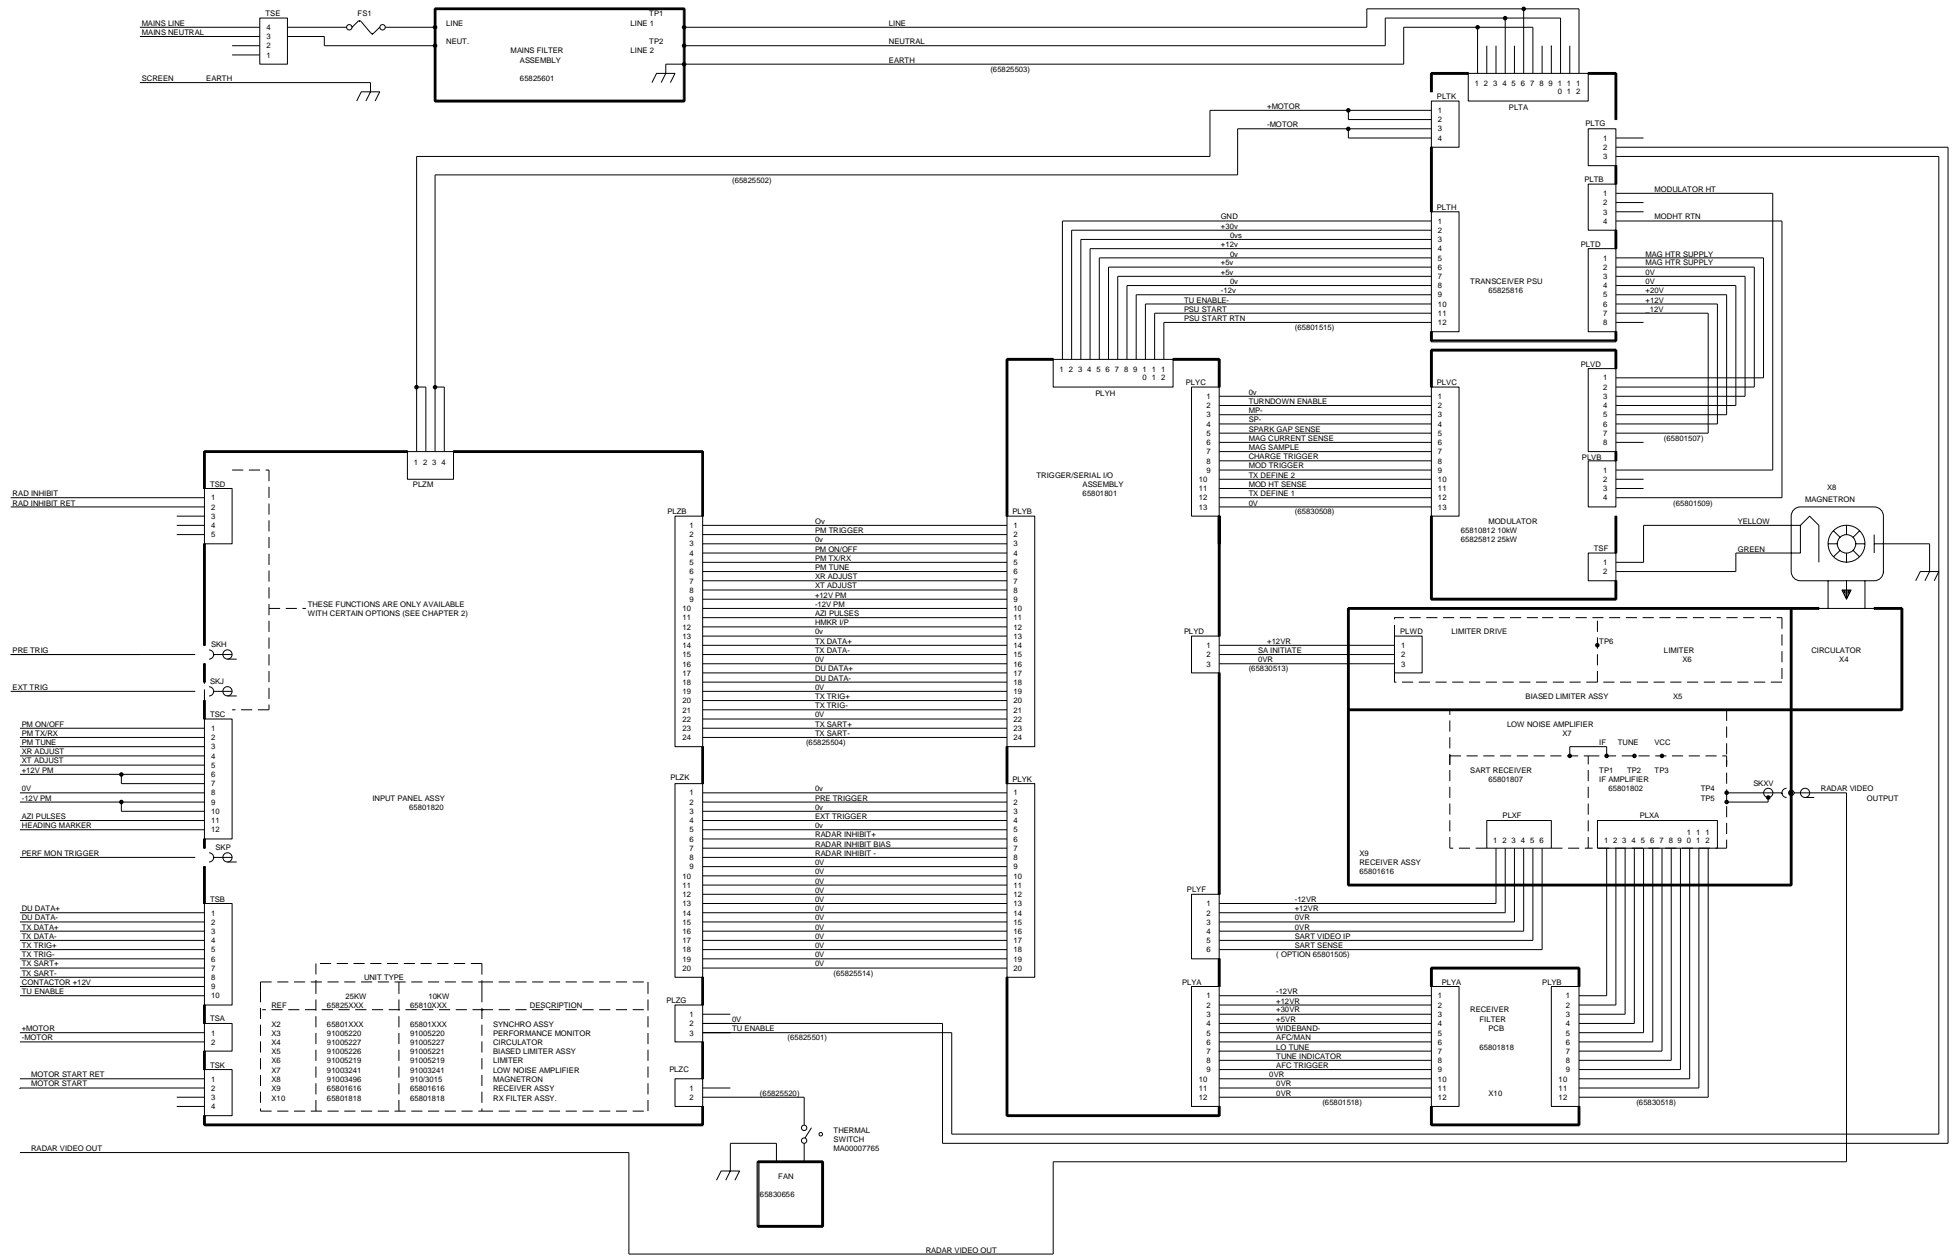

Figure 2.38 X-Band Transceiver Schematic
- Figure 2.38 X-Band Transceiver Schematic
A3 page 2-91/92 Figure 2.38, discard this A4 sheet.